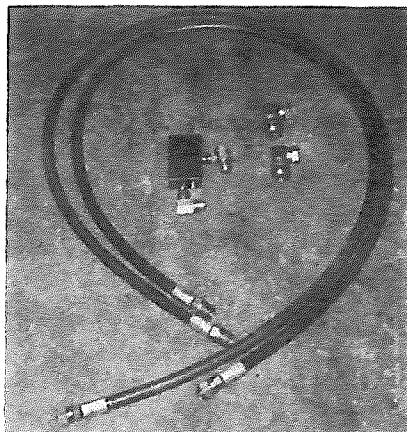

FIG. 3
2. Open hydraulic kit box and identify as either tractor hydraulic kit (figure 3) or external hydraulic (pump) kit (figure 4).